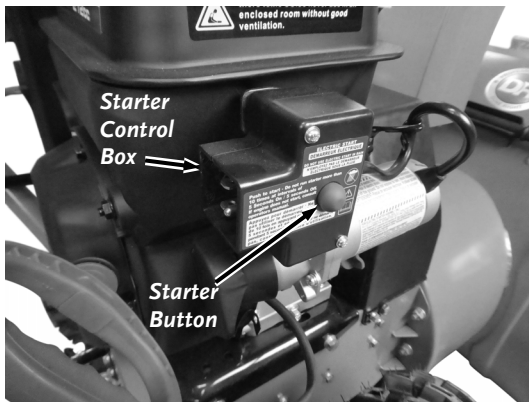

Figure 26
3. Connect the required Heavy-Duty extension cord into the Snow Blower Control Box (**Figure 26**) and plug the Extension cord into a 120V outlet.